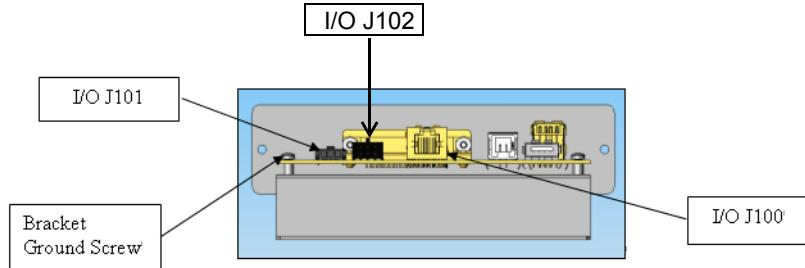

Figure 4: I/O Bracket
9. Connect the P102 Molex receptacle on the flapper box wire harness to the J102 connector on the I/O board ("Figure 4: I/O Bracket").